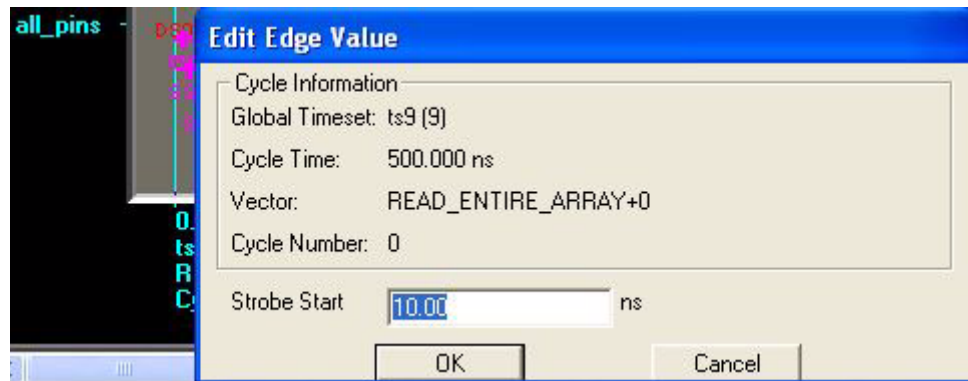

Figure 7-13. Edit Edge Dialog Box
- Double-clicking on an edge marker displays an Edit Edge Value dialog box that allows you to edit the edge marker value (similar to Figure 7-13).